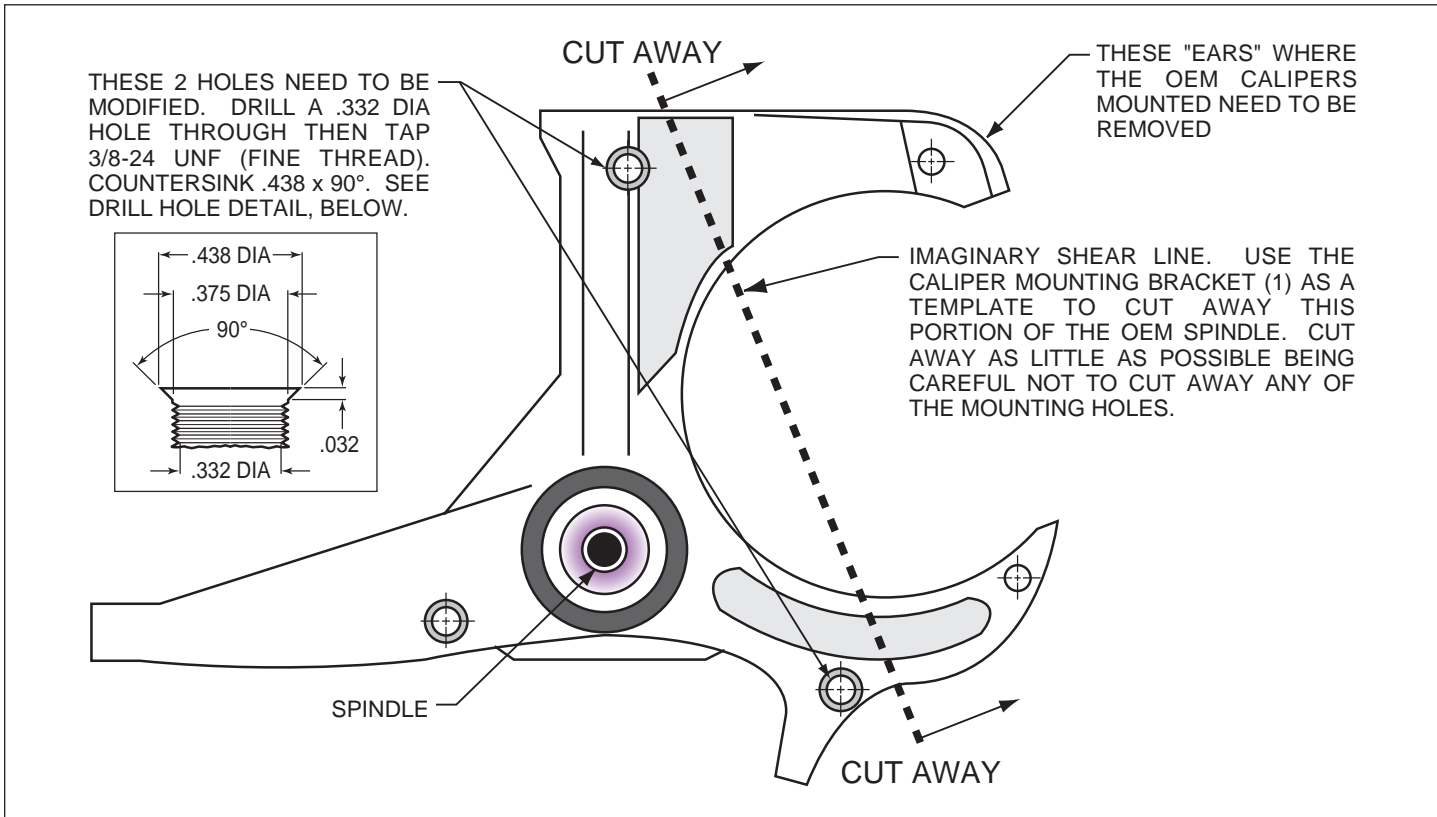

Figure 1. Steering Arm / Spindle Modifications
**NOTE:** This modification should be performed by a qualified machinist and completed before assembly of the Wilwood disc brake kit begins. Refer to Figure 1 as necessary (numbers in parenthesis refer to the parts list). Only one view of the steering arm/spindle is shown, but the modifications need to be performed on both steering arm/spindles.
The two stock holes that will be used to mount the caliper mounting bracket (1) need to be modified, as shown in Figure 1. Drill a .332 diameter hole through the two holes, then tap 3/8-24 UNF (fine thread). Countersink the holes to .438 x 90°. The "ears" that protrude to form a "C" shape need to be removed to facilitate the installation of the Wilwood caliper (15). Using the bracket as a template, mark two cut marks on the steering arm. Remove as little as necessary from the "C" shape, being careful not to cut away any of the mounting holes required to bolt on the bracket.